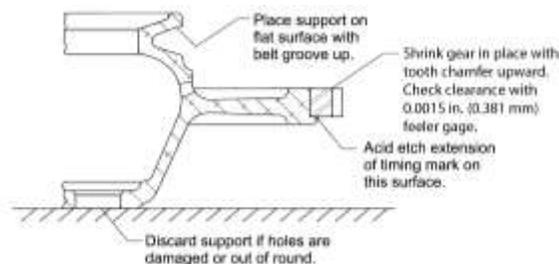

Figure 11
(1) Put the starter ring gear support on a flat surface (Figure 11) with the alternator/generator belt groove upward.